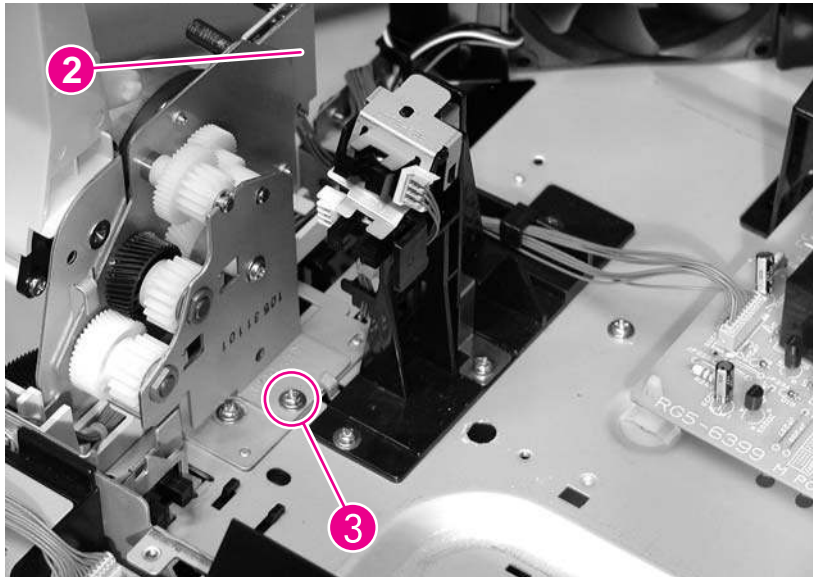

Figure 6-67 Remove the fuser drive unit (2 of 2)
- 5 Disconnect the connector (callout 2) and then remove one screw (callout 3). (This connector is hidden in Figure 6-67 Remove the fuser drive unit \(2 of 2\). It is on the rear left side of the fuser drive unit).